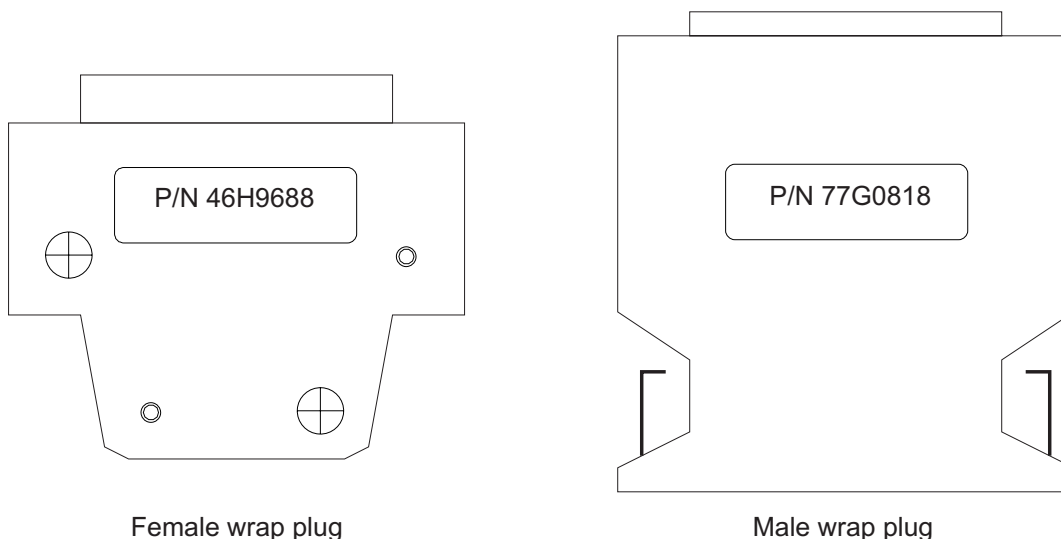

Figure 1-2. SP Switch wrap plugs
- Switch wrap plugs (male 77G0818 and female 46H9688 for SPS). Refer to Figure 1-2 on page 1-4 for views of the wrap plug.